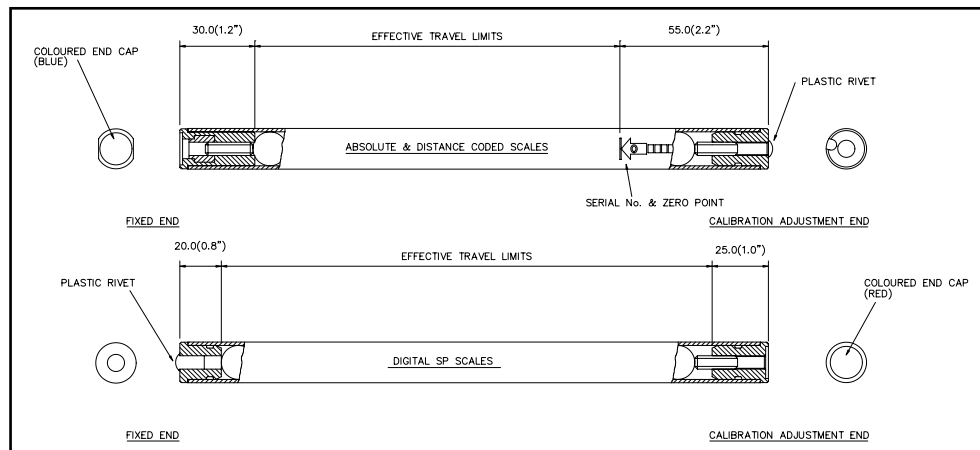

Figure 4.1 -Scale
- (A) Erroneous readings will occur if the reader head is allowed to travel beyond the Effective Travel Limits (Refer to Figure 4.1).
- (B) The pre-load on the balls are factory set via the set screw at the tensioner end. Do not tamper with or adjust the set screw as this will alter the calibration and accuracy specification of the scale and void the warranty (Refer to Figure 4.1).
- (C) When mounting scales in the vertical plane the tensioner end should be positioned at the top.